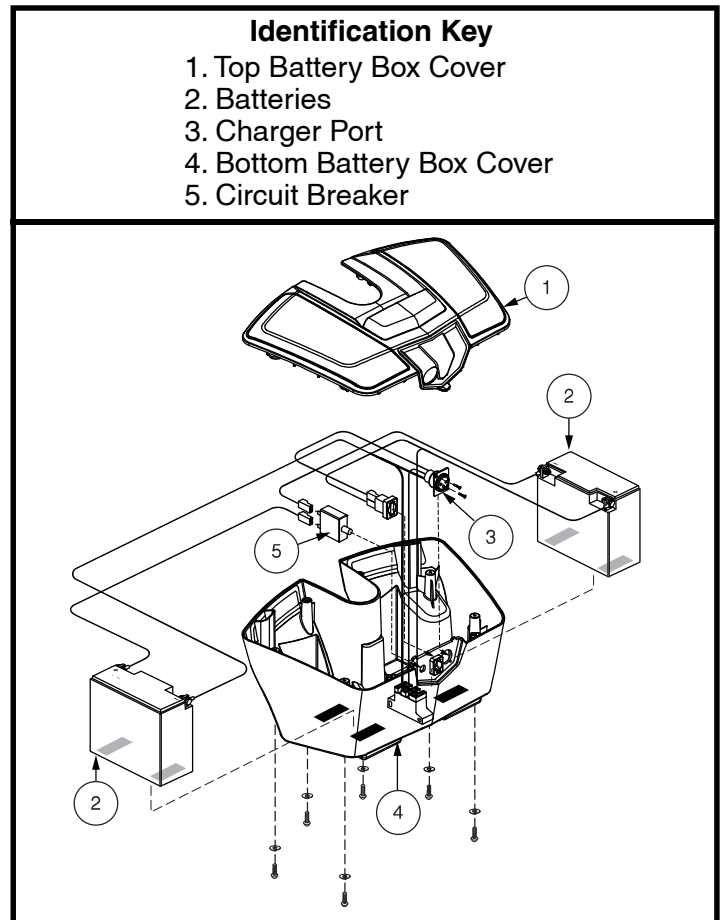

Figure 22. Go Chair Battery Box
3. Remove all screws that hold the battery box halves together. **See figure 22.**
10. Reconnect the two (2) battery cables to the battery terminals. Make sure the red cable is connected to the positive (+) terminal and the black cable is connected to the negative (-) terminal.